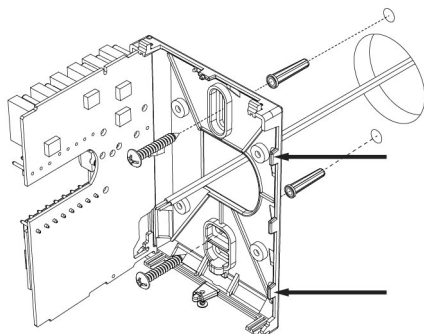

Fig. 2
1. Swing open the Fan Coil Terminal Equipment Controller PCB to the left by pressing the PCB locking tabs (Fig. 2).
7. Insert screws in mounting holes on each side of the base (Fig. 2).